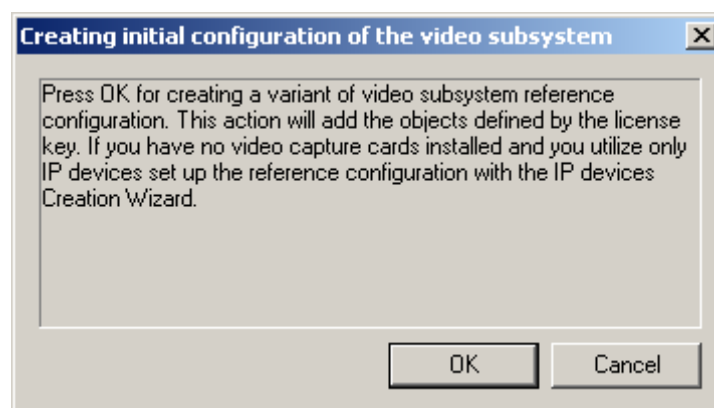

Figure 3.1-19 Initial configuration wizard
The **Creating initial configuration of the video subsystem** window is displayed (Figure 3.1-19).
- To create initial configuration of the video subsystem, click **OK** (Figure 3.1-19). This action will add objects under Intellect software key.